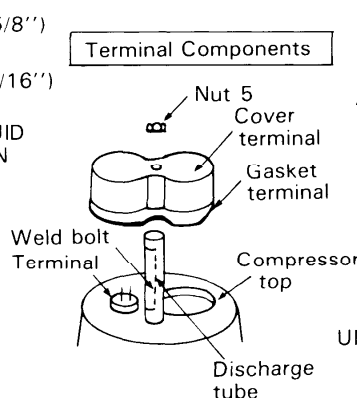

Fig. 24
- 2) Remove the cabinet according to the disassembly procedure of the outdoor unit. Refer to Page 53. Furthermore remove the terminal cover at the top of the compressor and remove the wiring of the overload relay and the compressor terminal. Fig. 24.